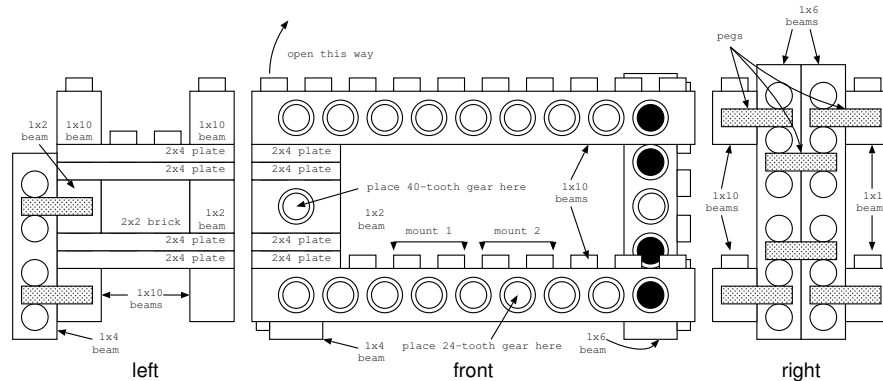

Figure 4.8: Jig for motor assembly
- (a) Construct the jig shown in Figure 4.8. It requires 4  $1 \times 10$  beams, 2  $1 \times 6$  beams, 1  $1 \times 4$  beam, 2  $1 \times 2$  beams, 1  $2 \times 2$  brick, 4  $2 \times 4$  plates, 10 black connectors, 2 axle connectors, 1 40-tooth gear, and 1 24-tooth gear. If you are left-handed, you might find it more useful to construct the mirror image of the jig.